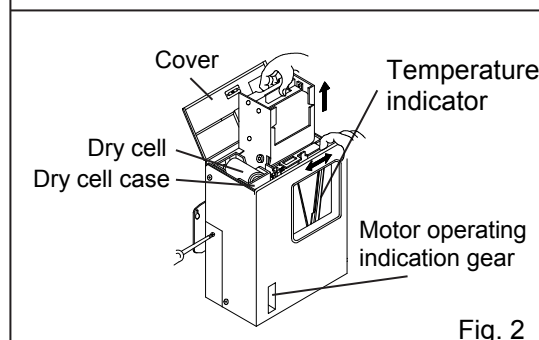

Fig. 2
- Pull the cartridge up after opening the cover. (See Fig. 2) The cover can be opened by turning the knob counterclockwise.